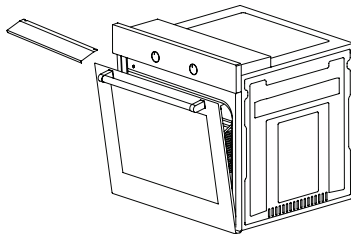

Figure 26
1. Place the heat shield under the control panel by opening the oven front door. (Figure 26)